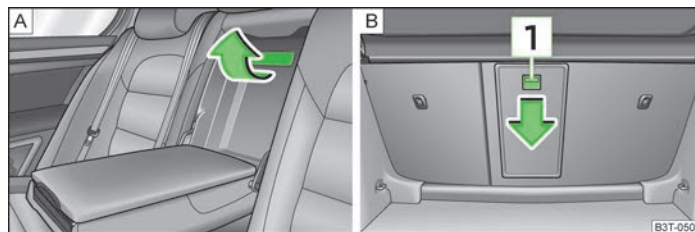

Fig. 100 Rear seats: Cover handle/boot: Unlock button
- Pull the handle upwards to the stop and fold the cover down » Fig. 100 - **A**.
- Push the unlock button **1** » Fig. 100 - **B** down and fold the cover (including the armrest) forwards.